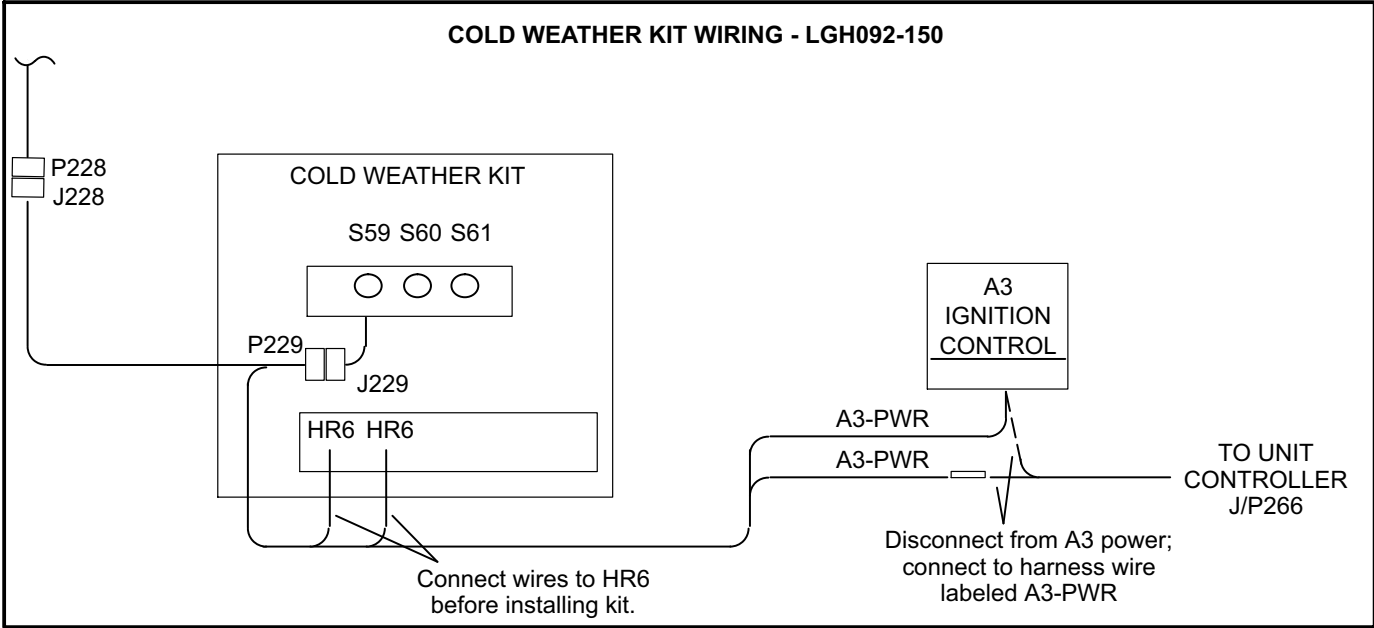

FIGURE 1
- 2- Locate the kit harness labeled 604954-01 kit harness. Remove cold weather kit cover and connect wires labeled HR6 to the cold weather assembly. See figure 1. Replace cold weather kit cover. Discard harness labeled 604956-01 provided in kit
- 4- Route the remaining harness wires as shown in figure 2. Make wire connections as shown in figure 1.